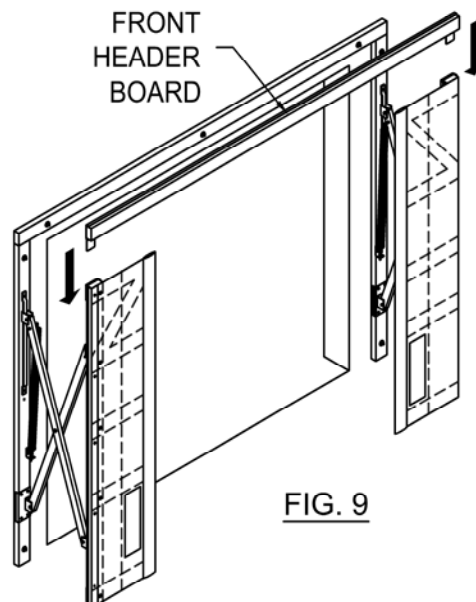

FIG. 9
- \* Connect front header cross-member to left and right verticals by sliding tongues at each end of front header cross-member into slots at top end of verticals (fig. 9).